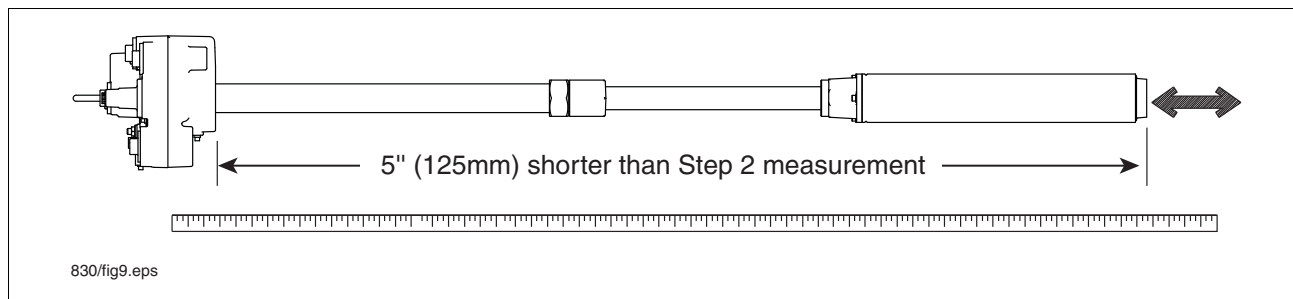

Figure 11. Adjusting pump length
- Referencing Figure 11, pull the UMP end until the distance between the bottom of the manifold and the bottom of the UMP is 5 inches (125 mm) (15 inches [381 mm] for floating suction) shorter than the distance measured in Step 2.